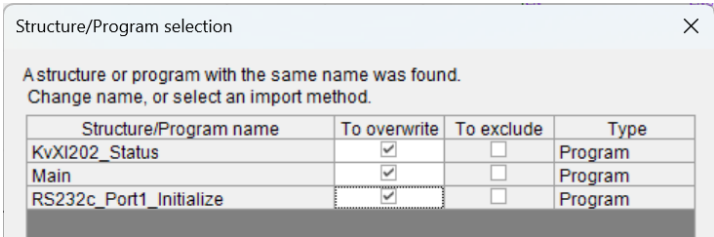

Fig 10 Structure selection Dialog
- ⑨ When the “Structure/Program selection” Dialog box appears, check all to [To overwrite]. And click on Continue. (Fig 10)